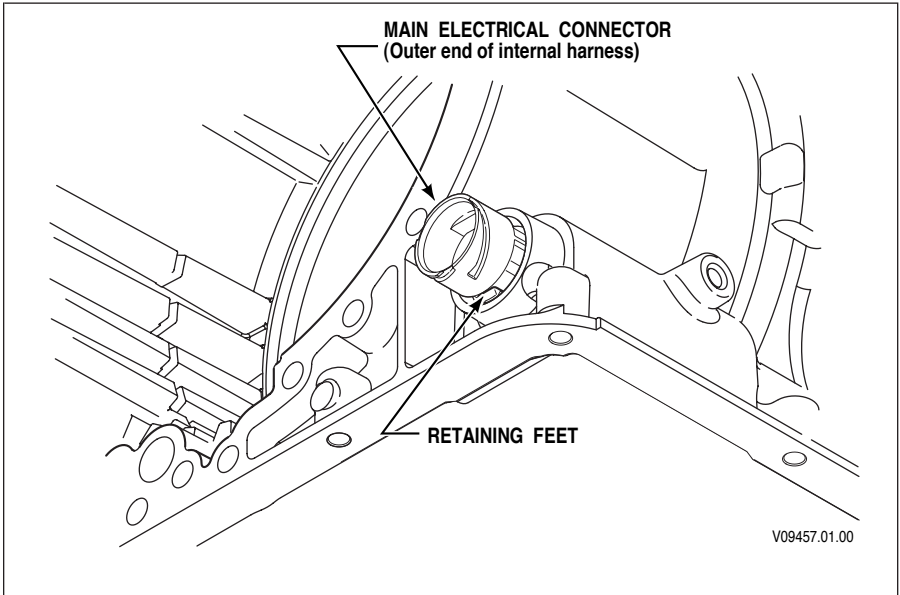

Figure 6–7. Transmission Main Electrical Connector
NOTE: The transmission main electrical connector is actually one end of the internal harness which protrudes through the main housing (refer to Figure 6–7).
7. Disconnect the internal wiring harness connectors from the solenoids (refer to Figure 6–8), Internal Mode Switch (IMS), and from the pressure switch manifold assembly.